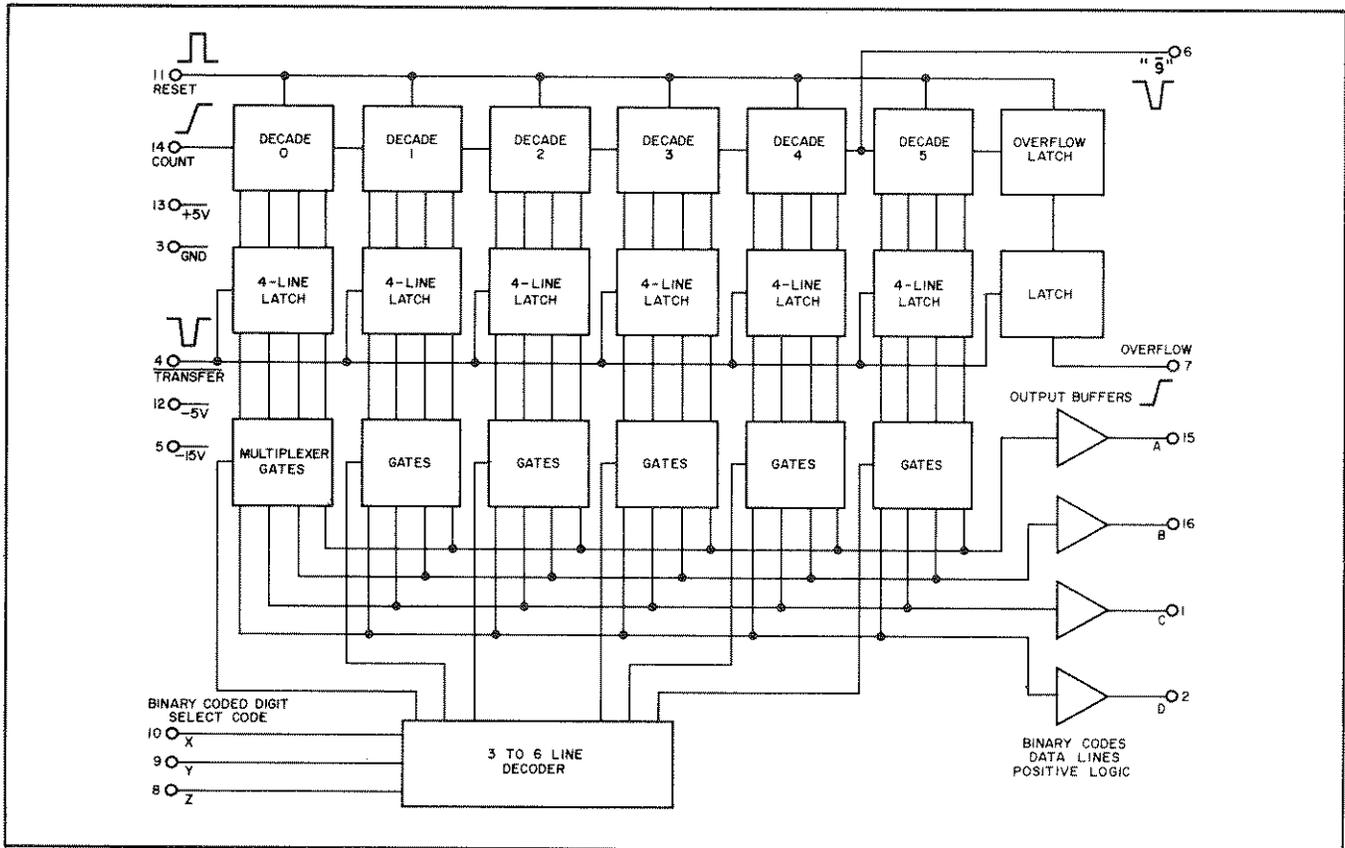

Figure 4-2. A1U1 6-Decade Counter Block Diagram
4-20. The A1U1 counter consists of six decade-counting elements, an overflow register, a 25-bit latch, and output multiplexing circuits. Figure 4-2 is a basic block diagram of A1U1. The counter can accumulate and store up to 1 million pulses at its input. The input triggers on the positive-going edge of the input pulse, which is derived from the control circuit, A1U9. The A1U9 input signal is the F1 signal from the plug-on. The TRANSFER input at A1U1(4) transfers data from the decade counters to the latch circuits when the TRANSFER line is low. When the TRANSFER line is high, data is stored in the latch circuits. The RESET input at pin 11 resets the decades when the RESET signal is high. One million or more input counts into the counter sets the overflow register, which causes the OVERFLOW output at pin 7 to go high following a TRANSFER signal.